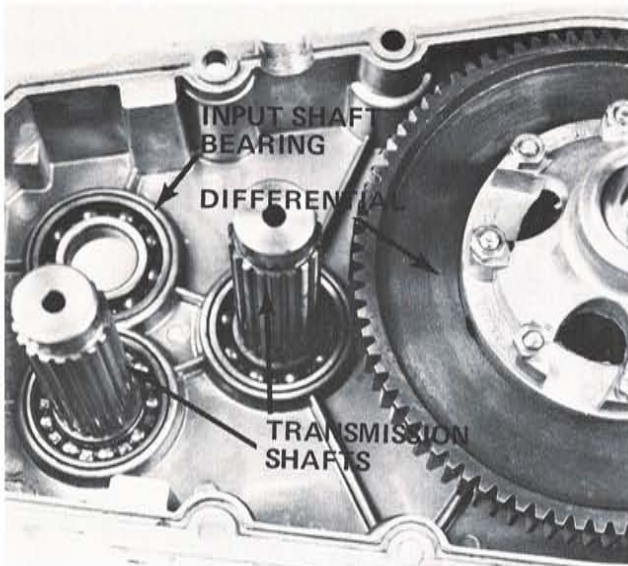

Fig 19
6. Next, install differential assembly, transmission shafts, and input shaft bearing in right hand transmission case. (Fig 19)